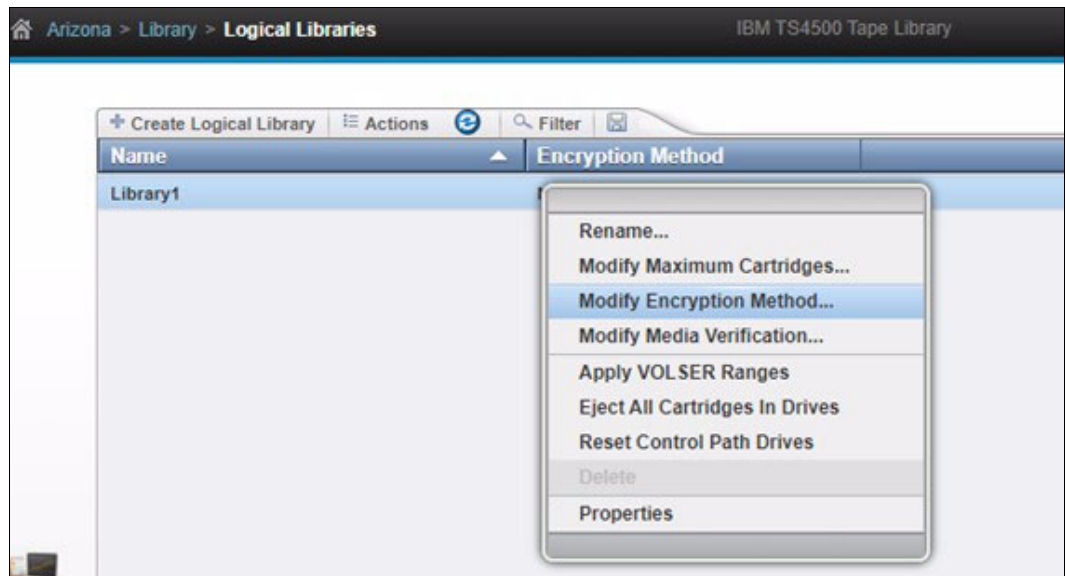

Figure 3-4 Logical Libraries Encryption Method options
1. Right-click the LL and select **Modify Encryption**. The Modify Encryption Method menu opens (see Figure 3-4).